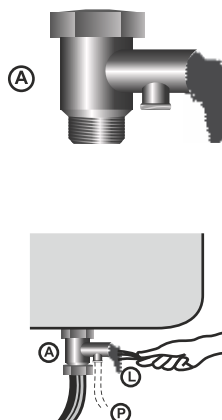

Fig. 2
8. In case of water dripping from safety valve, please put drain pipe (as shown in Fig.2)